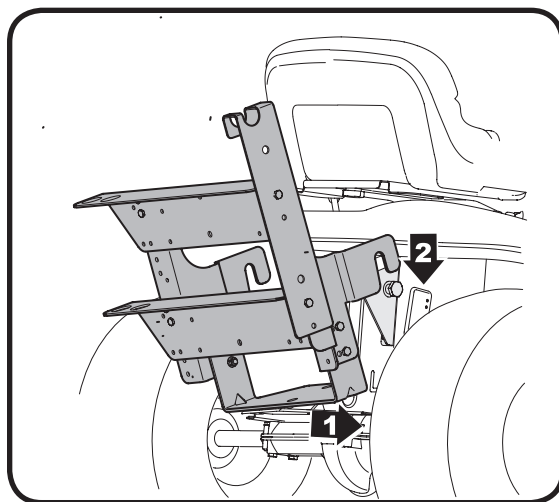

Figure 11
5. Position the hooked ends of the mounting bracket assembly to the outside of the support brackets and over the shoulder bolts just installed on both sides of the tractor frame. See Figure 11.
4. Position the hooked ends of the mounting bracket assembly to the outside of the support bracket and over the shoulder bolts on both sides. Refer back to Figure 11 for reference.